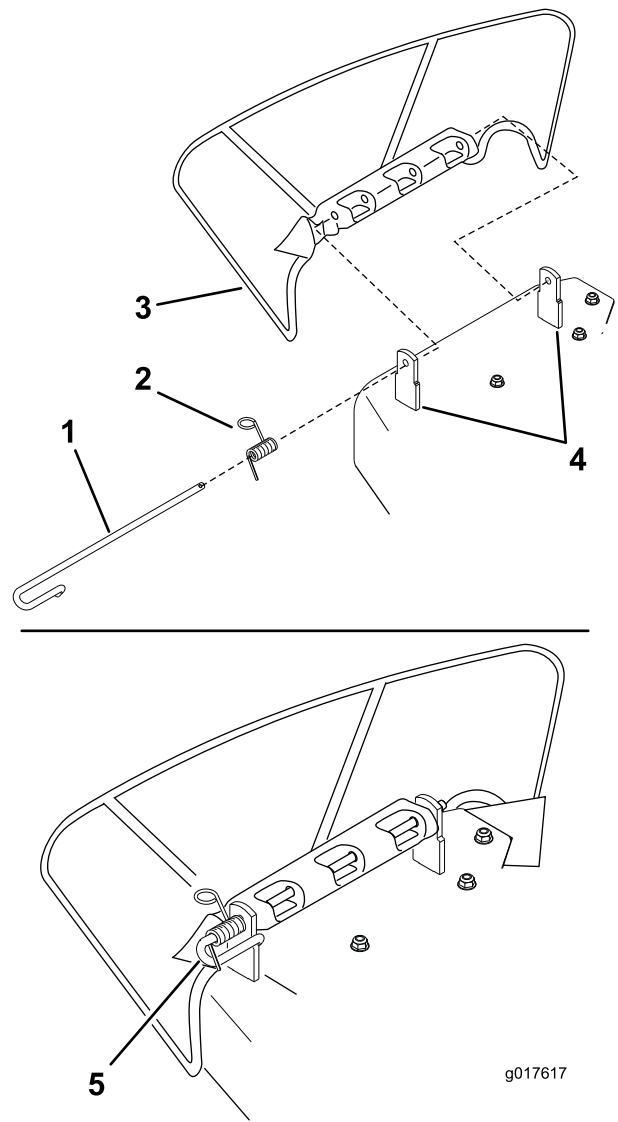

Figure 60
1. Disengage the spring from the notch in the deflector bracket and slide the rod out of the welded deck brackets, spring, and discharge deflector (Figure 60).